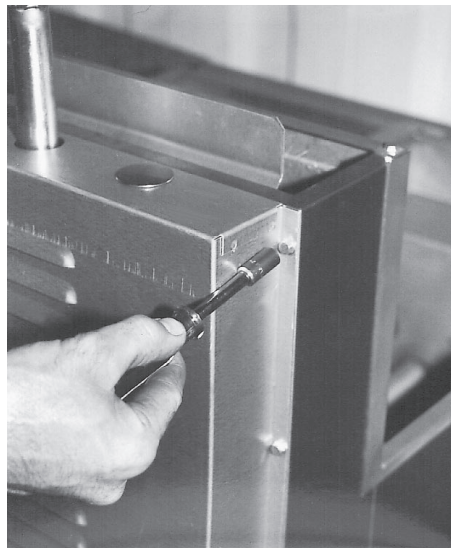

Fig. 62
4. Remove (14) screws from the upper back of the basket assembly using a ¼" socket. (Fig. 62)